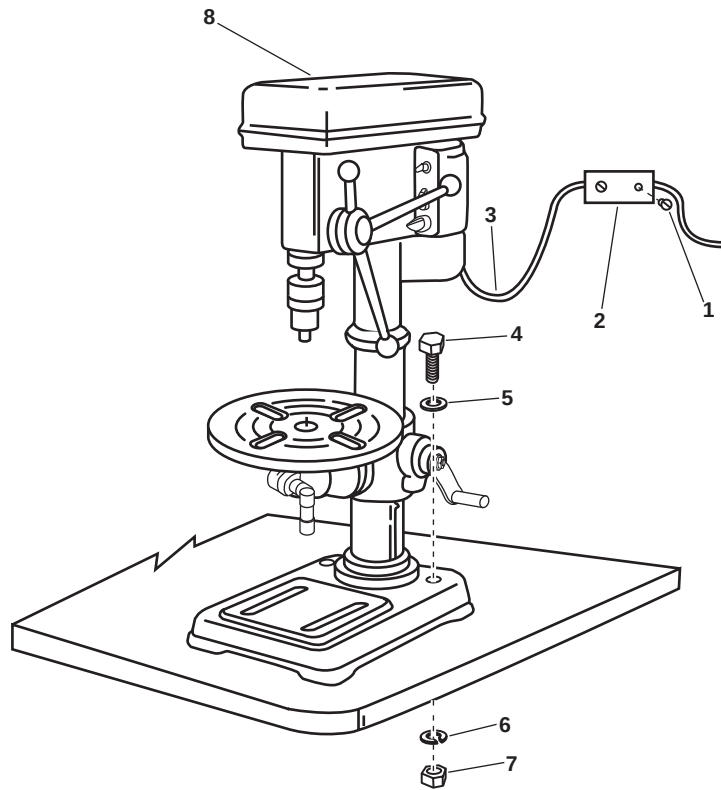

Figure 1. Drill Press
1. Remove the two screws (figure 1, item 1) and the junction box cover (figure 1, item 2).
2. Use a multimeter to check for voltage at the terminals in the junction box (figure 1, item 2). If voltage is present, ensure that the proper circuit breaker is set to OFF, locked out, and tagged out (FM 55-502). If no voltage is present, continue with the procedure.
3. Label and disconnect the drill press wiring (figure 1, item 3).
4. Remove the four bolts (figure 1, item 4), four flat washers (figure 1, item 5), four lockwashers (figure 1, item 6), and four nuts (figure 1, item 7). Discard the lockwashers.
5. Remove the drill press (figure 1, item 8) from the workbench.
1. Place the drill press (figure 1, item 8) on the workbench, and secure it with the four bolts (figure 1, item 4), four flat washers (figure 1, item 5), four new lockwashers (figure 1, item 6), and four nuts (figure 1, item 7).
2. Connect the drill press wiring (figure 1, item 3) using the labels from step 3 of Removal as a guide. Remove the labels.